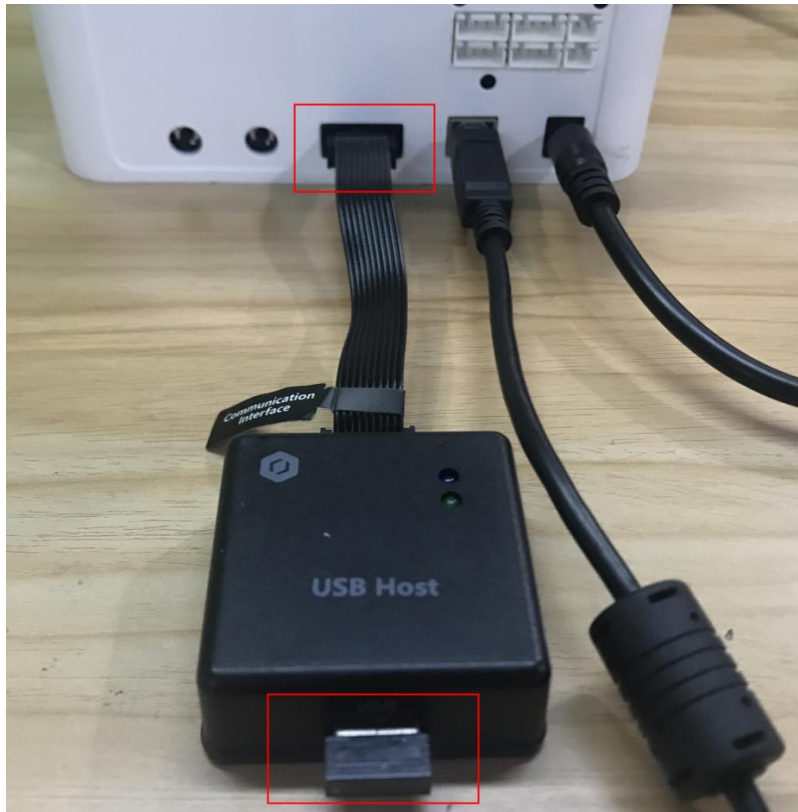

Figure 5.184 Connect with USB Host module
Step 2 Connect the USB Host module to the UART interface on the base, as shown in Figure 5.184.